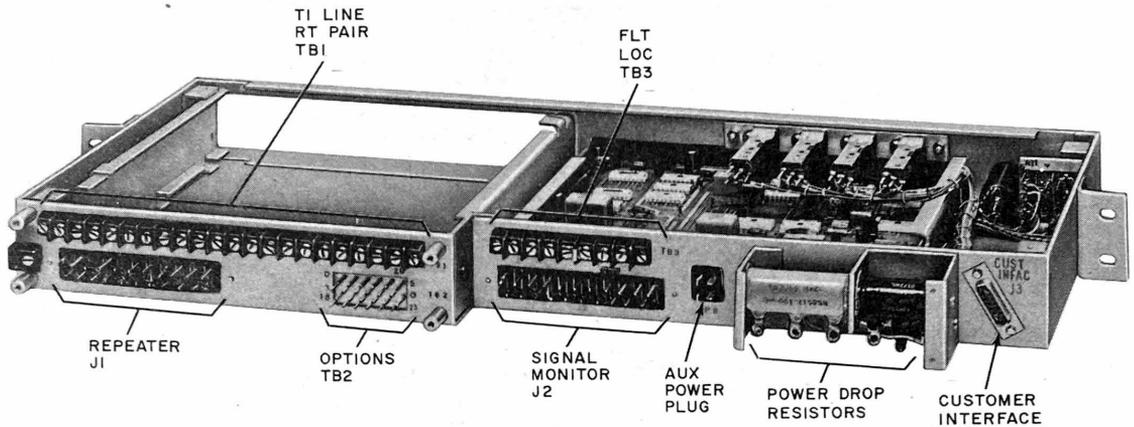

Fig. 2—551A CSU—Rear View With Covers Removed
2.02 The S option is provided in manufacture and should be installed when the 598 fault location filter is not used. When the 598 fault location filter is used, the S option should be removed and the R option installed. The M option is also provided in manufacture and must be used when the fault location pair is terminated at the 551A CSU. Option N provides for an improved grounding arrangement for line powered CSU applications. Refer to Fig. 2 and Table A.
4.01 The 551A CSU connection to the T1 lines, order wire, and remote test pair (when provided) is made by screw connection to TB1 (Fig. 2 and 4). Connection to the fault location pair is made by screw connection to TB3. It will be necessary to remove the rear cover to gain access to TB1 and TB3.